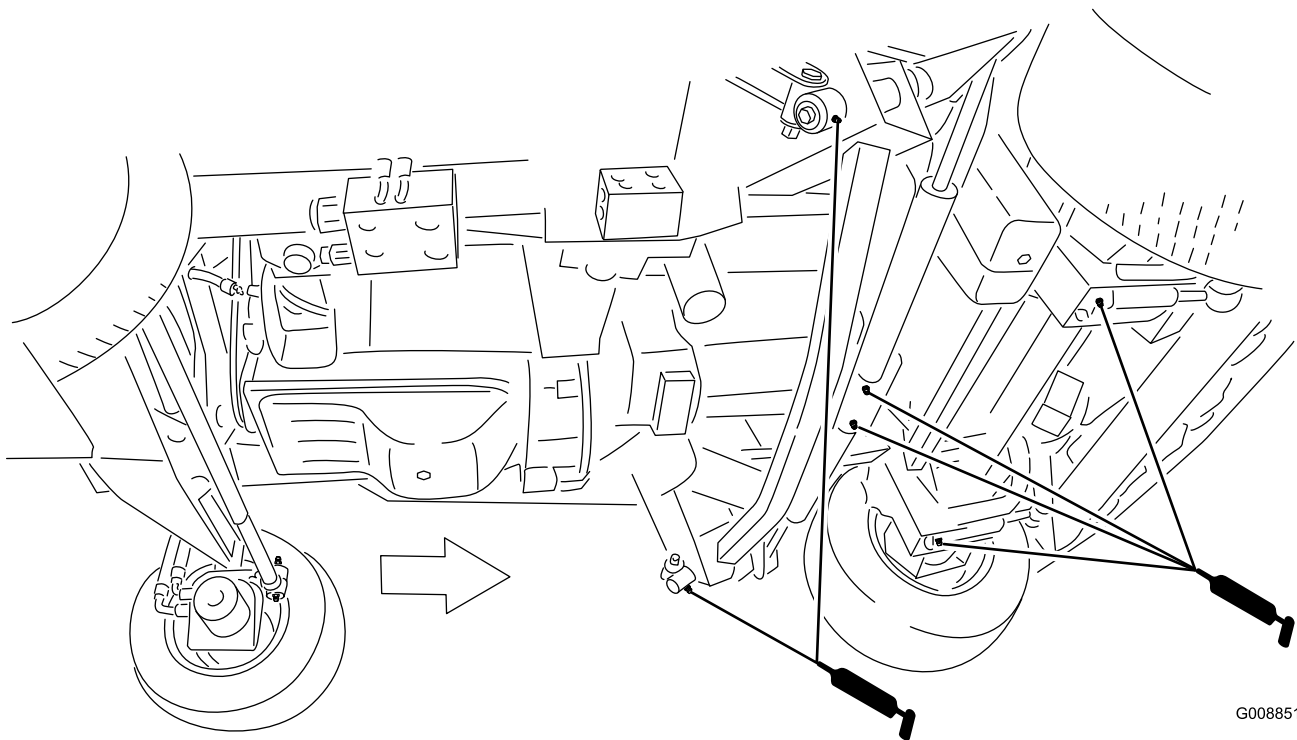

Figure 50
- 2 impact arms (Figure 50)
- 2 front Deck Lift cylinder pivots (Figure 50)
- 2 side Deck Lift cylinder pivots (Figure 50)